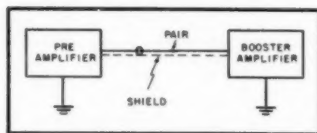

Fig. 2. Ground loop resulting from grounding shield to chassis at both ends of pair.
The construction of the Super Horn is such that panels 1, 2, 4, and 5 act as an exponential horn following a true exponential within one per cent. (See Figs. 2, and 3). The throat of the horn (T) is formed by the top edge of panel 2, and panels 4 and 5. The mouth (M) is defined by the bottom edge of panel 3, the bottom edge of panel 1, and edges of panels 4 and 5. V_c acts as a coupling chamber to keep high frequencies out of the horn. X_1 and X_2 indicate the distance over which area of the horn doubles. The area at Q is double that of the throat and the area of the mouth is double that of Q . Once a flare-rate is chosen, the rest of the dimensions of the cabinet may be determined geometrically.
resulting when, for example, the shield of a cable pair is grounded at both ends. It will be noted from Fig. 2 that multiple grounding forms a coil of one turn, in which a voltage may be induced by any nearby a.c. field. Since the pair shield is part of the loop or turn, noise may thereby be induced in the conductors.